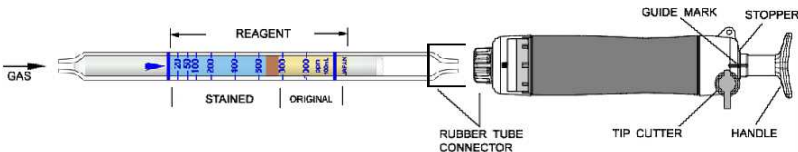

Fig.1
- ② Insert the detector tube into the aspirating pump securely as shown in Fig.1. (Arrow mark shall point to the pump.)
- ③ Align the guide marks on the shaft and stopper of the aspirating pump.
- ④ Pull the pump handle with a full stroke until it locks and wait for 1.5 minutes or until the completion of sampling is confirmed with the flow indicator of the pump. (See descriptions about the flow indicator in the instruction manual of the pump.)
- ⑤ On completion of sampling, read the scale at the maximum point of the brown stained layer.